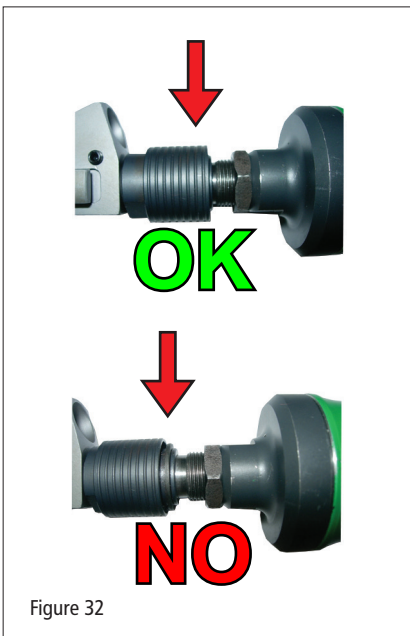

Figure 32
- Make sure the head is fitted in place by making sure that the ring nut is in its seat, as shown in Figure 32. Attempt to remove the head to make sure that it does not accidentally come loose